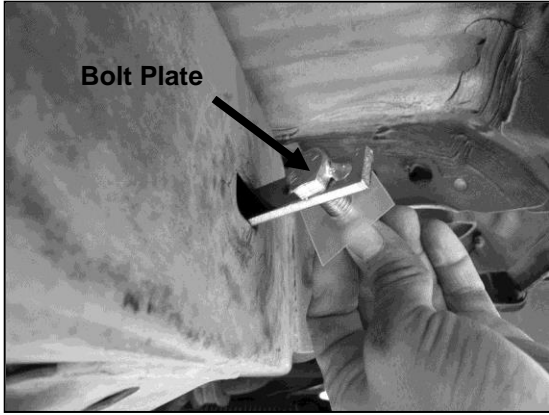

**Figure 1**
2. Locate passenger Sidebar and place on a clean working area. Attach front Mounting Bracket to Sidebar using the included (1)  $\frac{1}{2}$ " x 2" Flat Head Bolts (**Figure 1**). **NOTE:** Use the counter sunk hole on the front Mounting Bracket.